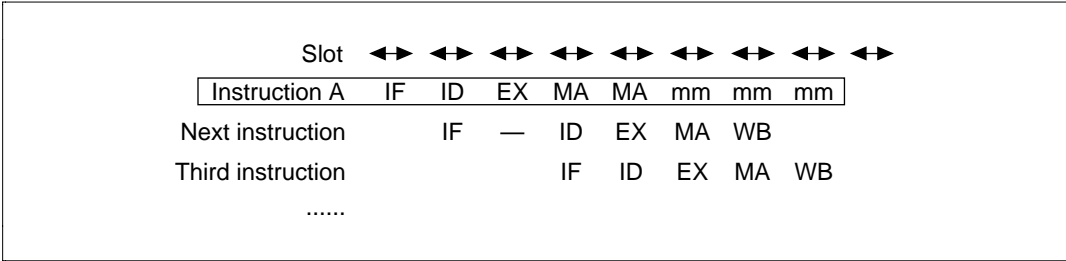

Figure 10-32 Multiplication Instruction Pipeline
The pipeline has eight stages*: IF, ID, EX, MA, MA, mm, mm, and mm (figure 10-32). The MA accesses the multiplier. The mm indicates that the multiplier is operating. The mm operates for three cycles after the MA ends, regardless of slot. The ID of the instruction following the DMULS.L instruction is stalled for 1 slot (see the description of the multiply/accumulate instruction). The two MA stages of the DMULS.L instruction, when they contend with IF, split the slot as described in section 10.2.1, Contention between Instruction Fetch (IF) and Memory Access (MA).